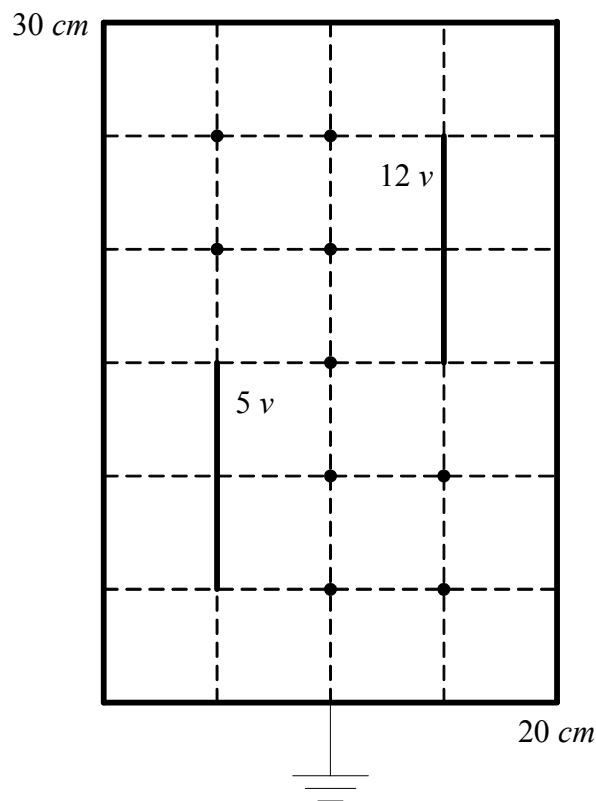

Figure 3: The structure used in the experiment
1. Solve Laplace's equation using the *FD* method for the structure given in figure 3. The dimensions of the structure are $20 \text{ cm} \times 30 \text{ cm}$. Use a step size of 5 cm in both dimensions.
2. Decrease the step size to 2.5 cm and repeat part (1).
3. Compare the results obtained in parts (1) and (2) at some points inside the structure.